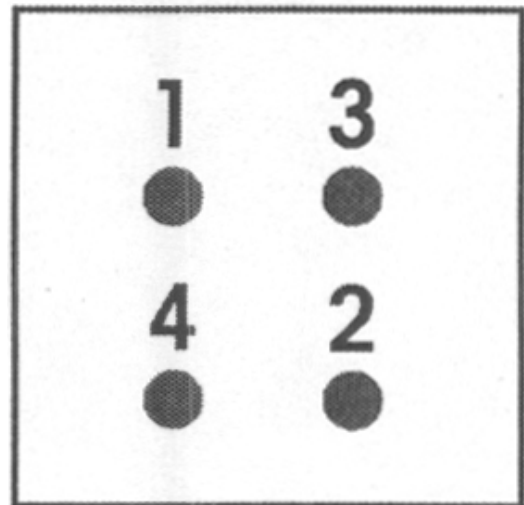

Figure 7.3
7. Tighten the U bolt locknuts evenly and tighten to the proper torque in the proper sequence. See **Figure 7.3**. Rap top of U bolts, and retighten to proper torque. DO NOT EXCEED SPECIFIED TORQUE ON U BOLT LOCKNUTS.